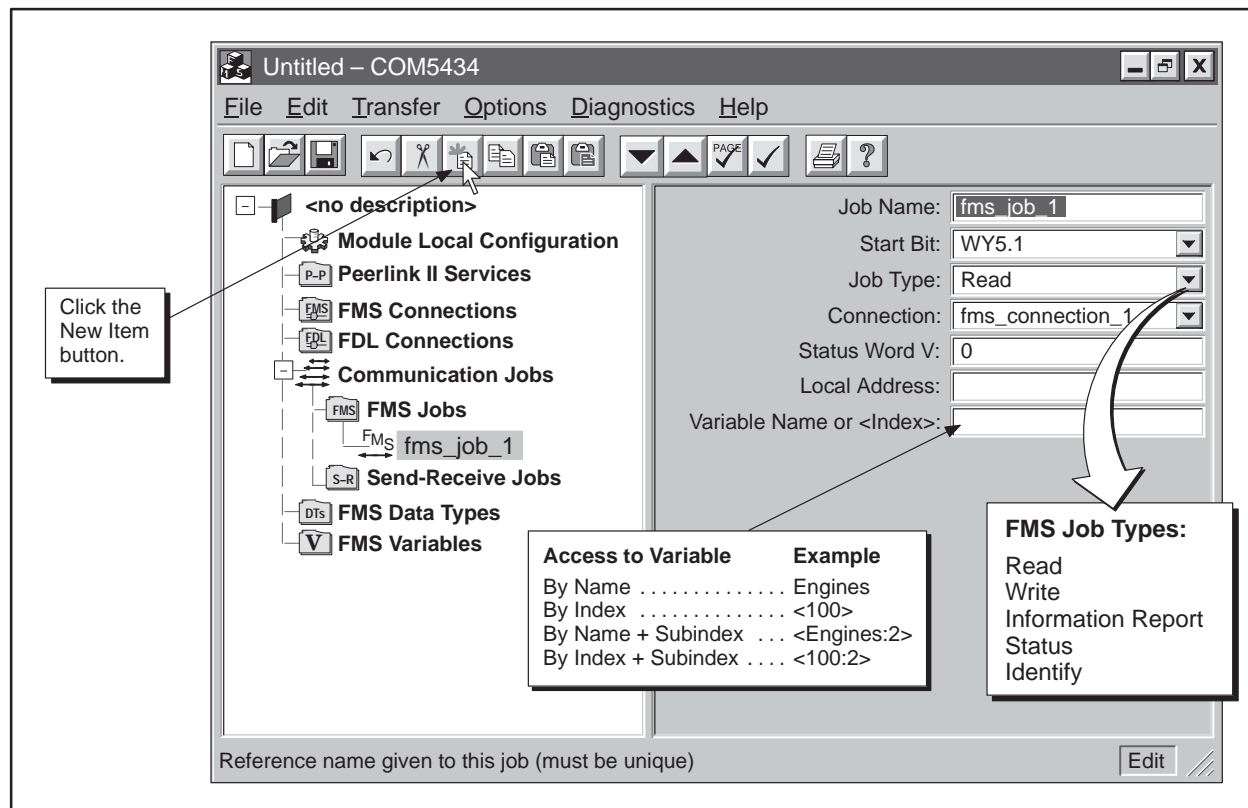

Figure 5-20 Configuring FMS Jobs
2. Click on the New Item button on the toolbar. An FMS job appears in the configuration tree and the input fields change (see Figure 5-20).